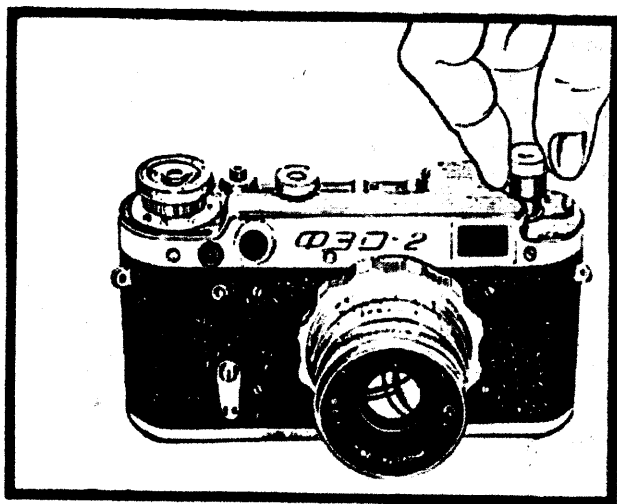

Fig. 14.
Raise the film rewinding head (15) and turn it in the direction of the arrow engraved on its face (Fig. 14).